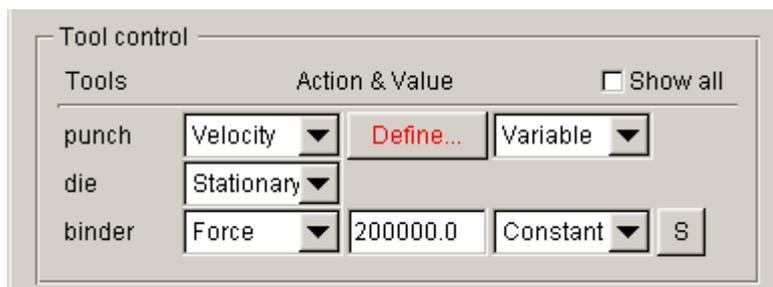
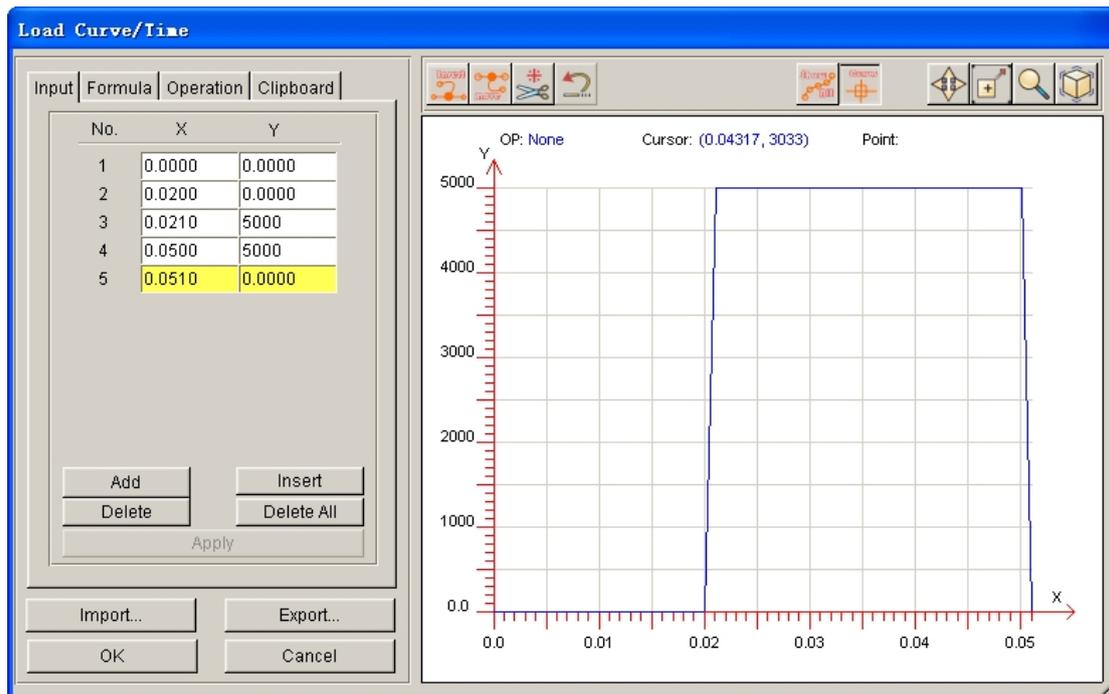

Figure 7.43 Tool control
Figure 7.44 Punch load curve definition
- From Tool control field illustrated in Figure 7.43, click the drop-down button of punch to select **Variable** option. Then, click **Define...** button to display the LOAD CURVE/TIME dialog box illustrated in Figure 7.44.
- Use functions provided in Input page to key in the punch load curve illustrated in Figure 7.44. Click **Apply** button to show the curve. Click **Ok** button to exit the LOAD CURVE/TIME dialog box.